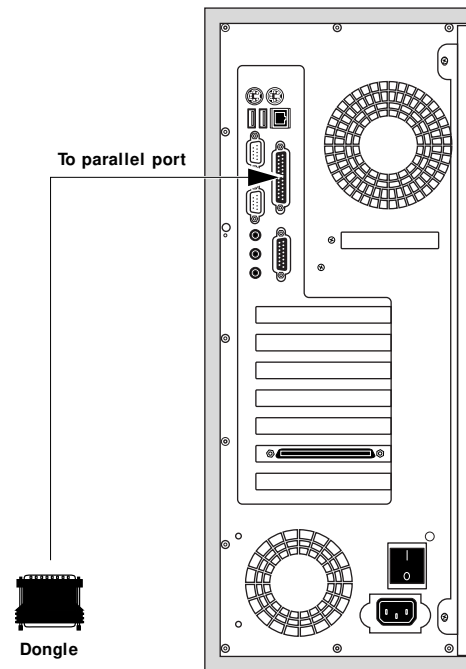

FIGURE 4-17 Connecting the dongle
1. **Unpack the dongle shipped with the new motherboard and connect it to the parallel port on the back panel (see Figure 4-17).**
3. If you have not done so already, connect the dongle to the parallel port on the back of the E-820 ( see Figure 4-17 on page 4-33).